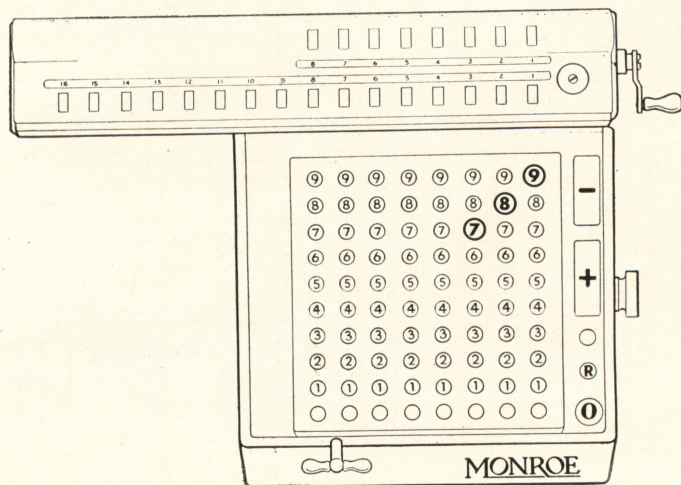

Figure 3
**Step 1**—With carriage in "1" position set 789 on extreme right of keyboard as shown in Figure 3. Depress plus bar until 4 appears in upper dials.